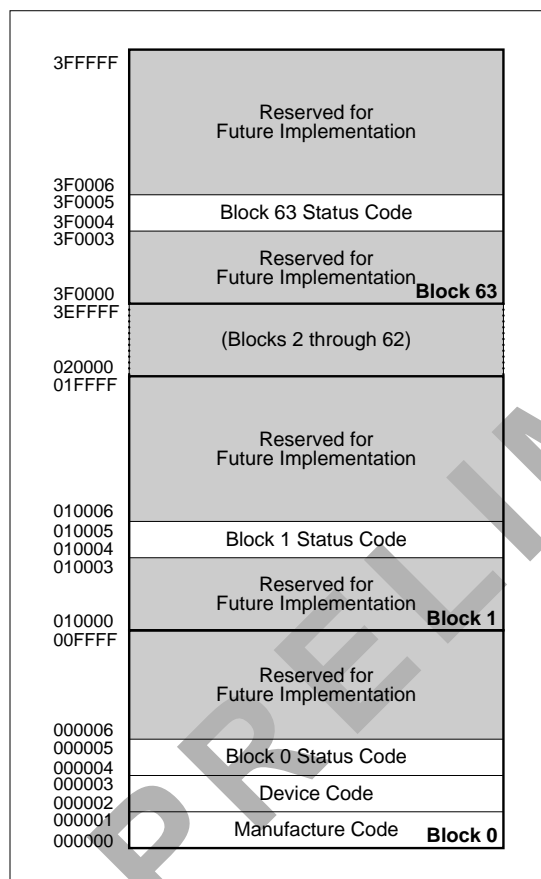

Fig. 2 Device Identifier Code Memory Map
The read identifier codes operation outputs the manufacture code, device code, block status codes for each block (see **Fig. 2**). Using the manufacture and device codes, the system CPU can automatically match the device with its proper algorithms. The block status codes identify locked or unlocked block setting and erase completed or erase uncompleted condition.
IA = Identifier code address : see **Fig. 2**.
The identifier code operation is initiated by writing the Read Identifier Codes command. Following the command write, read cycles from addresses shown in **Fig. 2** retrieve the manufacture, device, block lock configuration and block erase status (see **Table 4** for identifier code values). To terminate the operation, write another valid command. Like the Read Array command, the Read Identifier Codes command functions independently of the V_{PP} voltage and RP# must be V_{IH}. Following the Read Identifier Codes command, the following information can be read :
1. X selects the specific block status code to be read. See **Fig. 2** for the device identifier code memory map.